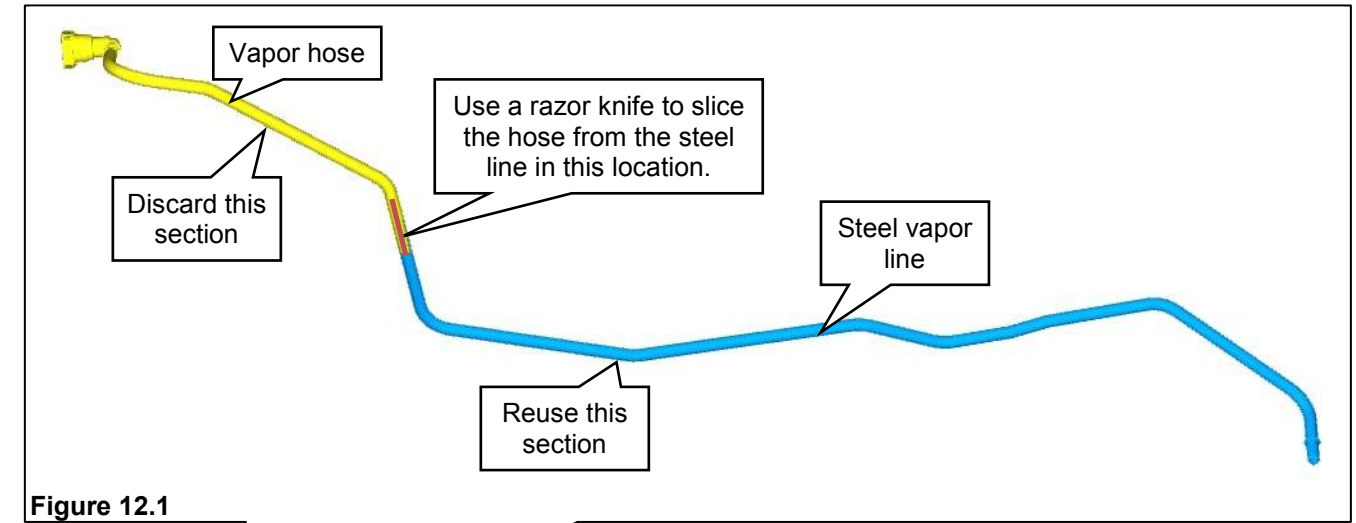

Figure 12.1
2. Place the vapor line on a bench and slice the hose using a razor knife where the hose connects to the steel line. Separate the hose from the steel line and discard the hose. Install the steel vapor line to its original position. **Figure 12.1.**